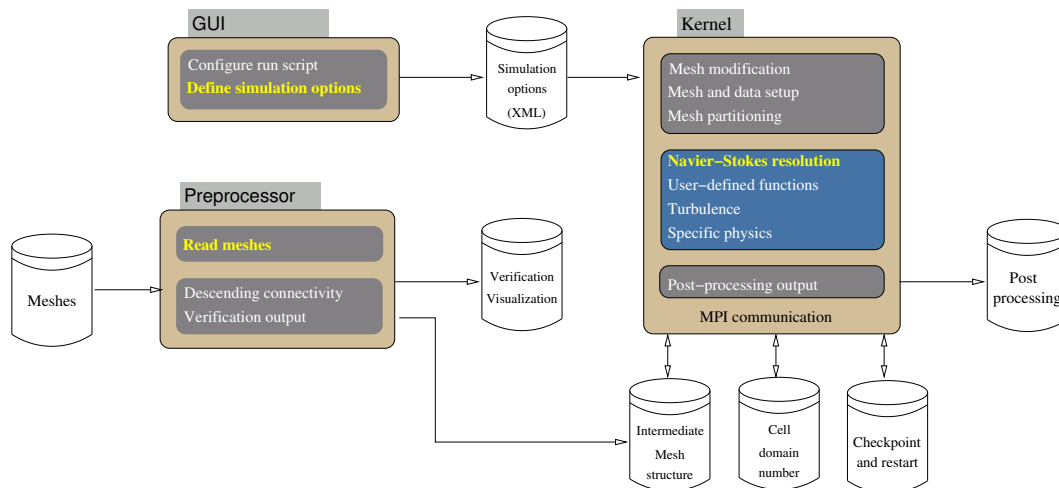

Figure 1: *Code\_Saturne* elements
*Code\_Saturne* is composed of two main elements and an optional GUI, as shown on Figure 1: